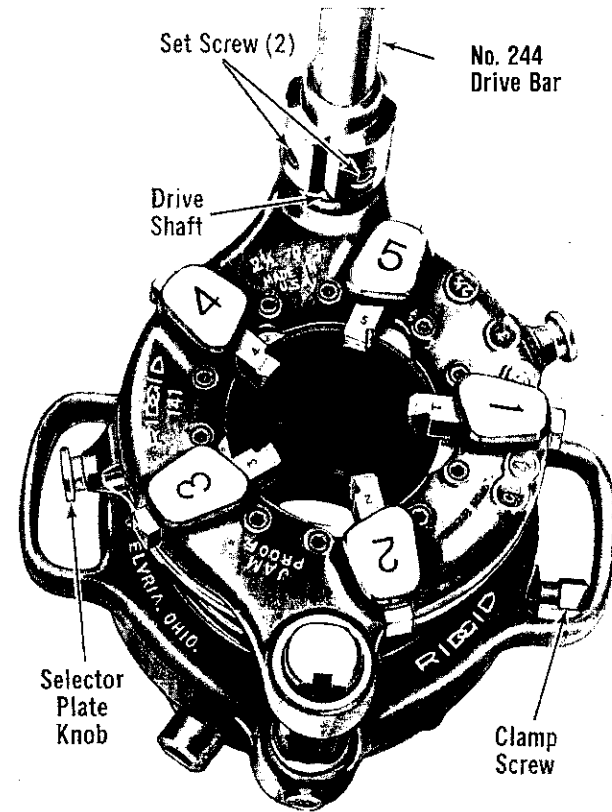

Figure 13. No. 141 Threader with No. 244 Drive Bar Installed (No. 4PJ Threader Similar).
2. Place Threader on floor or workbench with Drive Shaft up. Install No. 244 Drive Bar on Threader Drive shaft and tighten 2 Set Screws (Fig. 13).